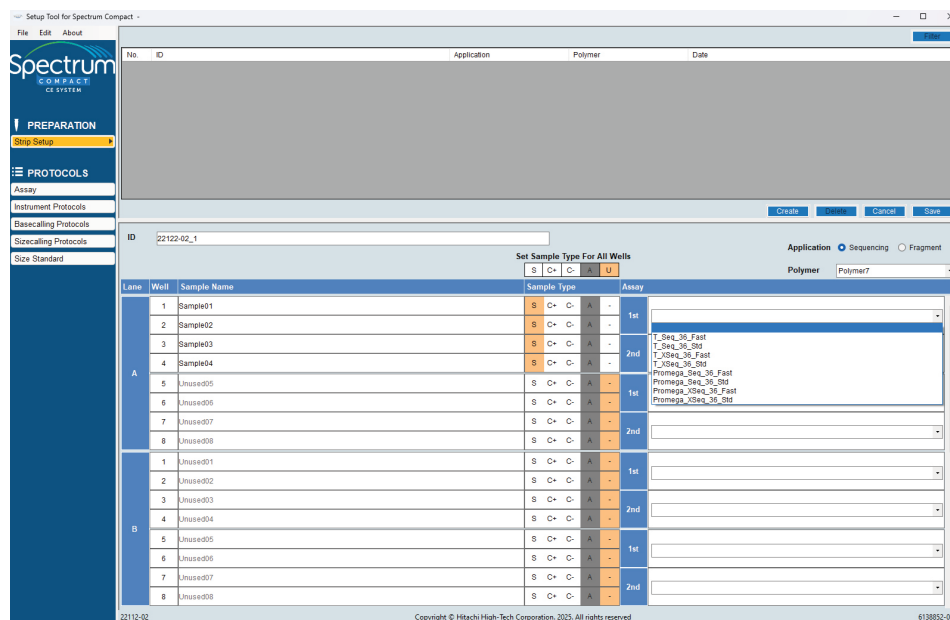

Figure 194. Assay drop-down menu.
- To assign an Assay to an injection set (set of four wells), select the cell under the Assay column to the right of the cell labeled 1st. This will activate a pull-down menu (Figure 194). Select the desired Assay from the available list. Repeat for all injection sets.